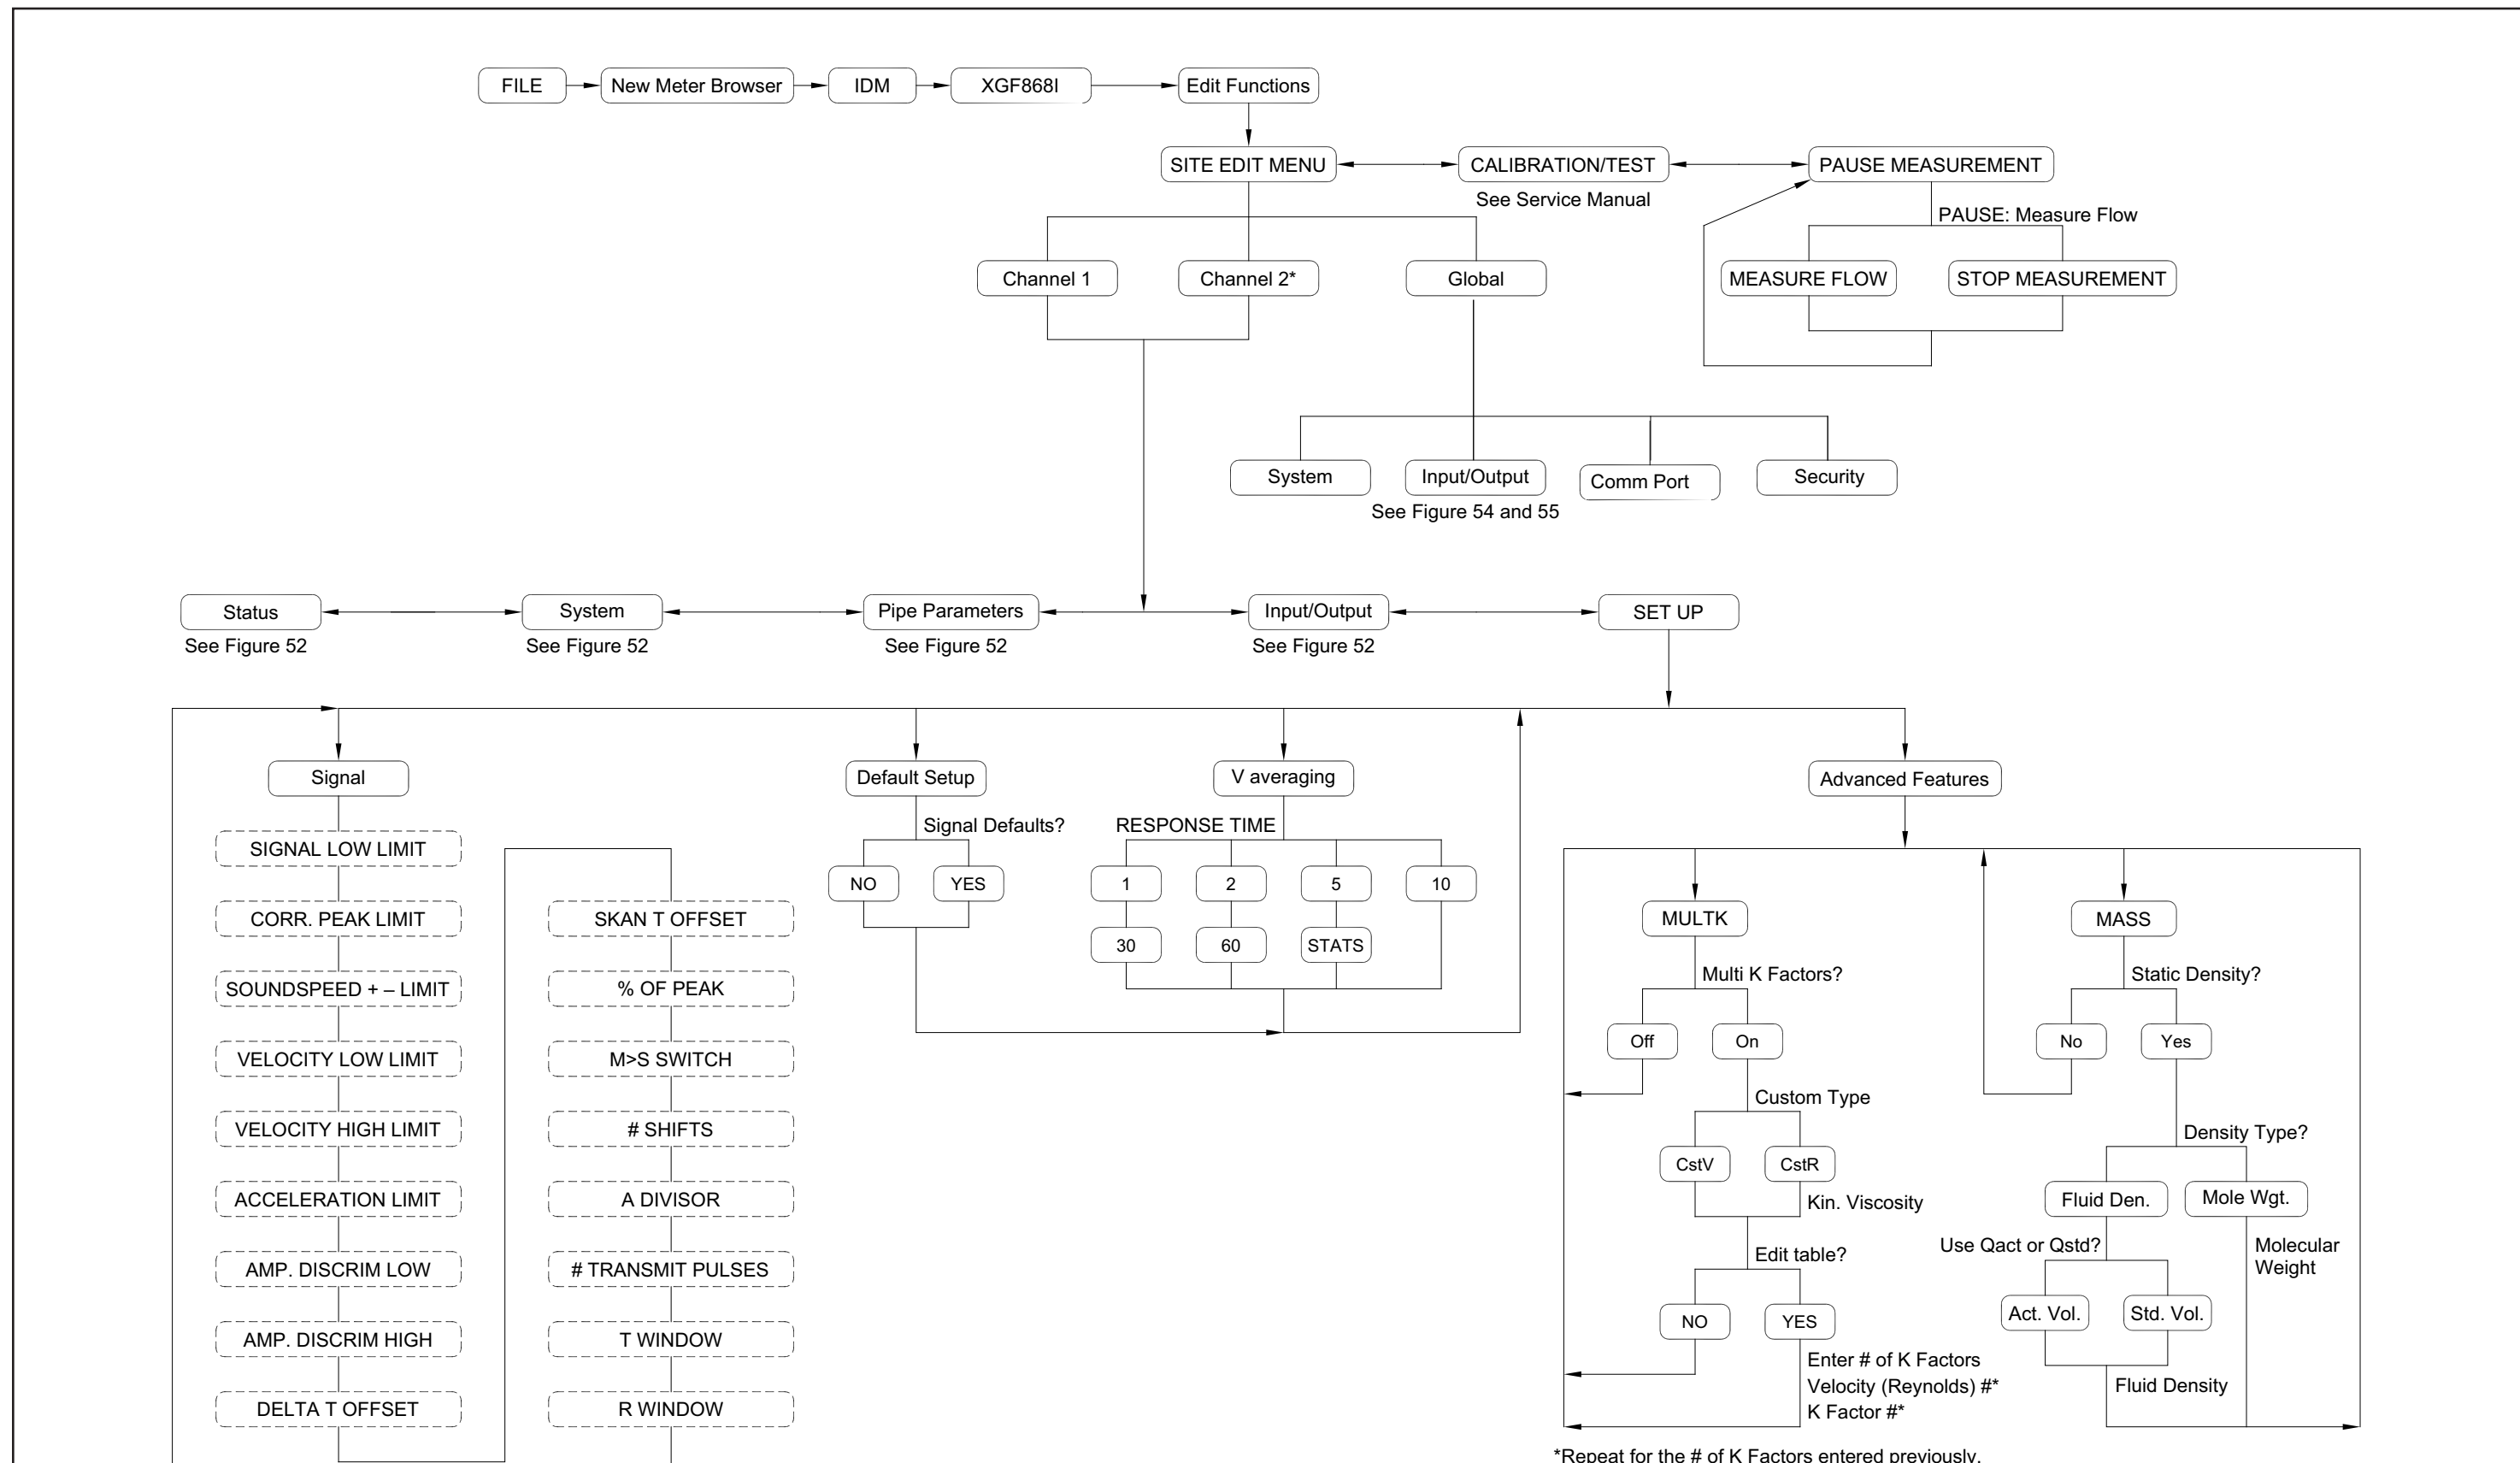

Figure 56: PanaView PROG > CHX > SETUP Menu
- Figure 56, “PanaView PROG > CHx > SETUP Menu,” on page 132